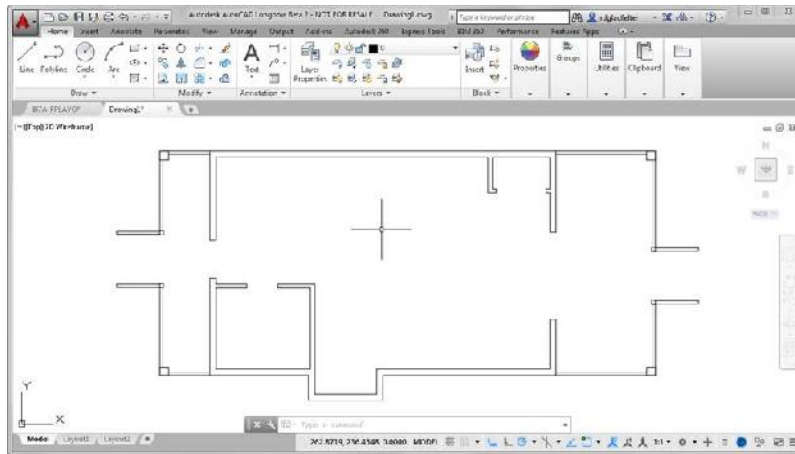

FIGURE 7.51: The contents of the A-WALL and A-DECK layers copied into a new drawing
8. Perform a Zoom Extents, and then use the scroll wheel to zoom out a little. Your drawing should look like Figure 7.51.